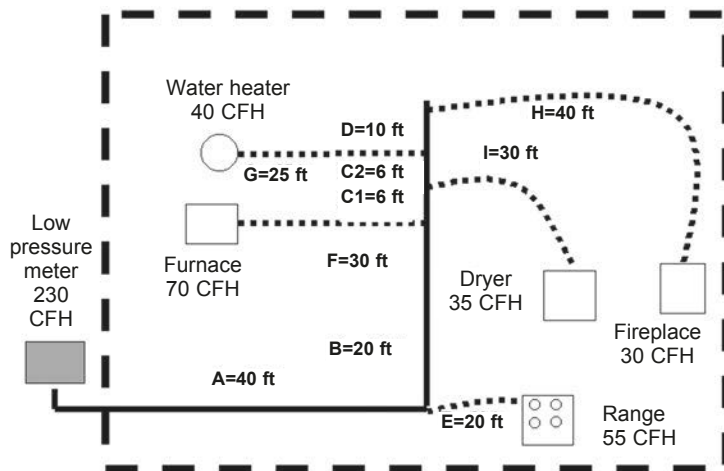
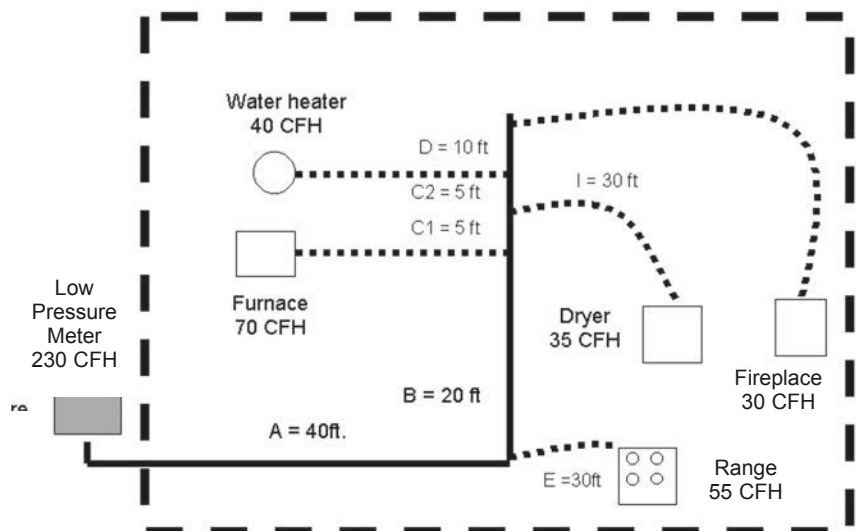

Figure: 3-6
Figure: 3-8
- The system presented in Figure: 3-6 is a typical residence with 5 appliances. The supply pressure is 7 inches w.c. The allowable drop is 1-inch w.c. total.
1. The system presented in Figure: 3-8 is identical to that in Figure: 3-6, a single-family installation with 5 appliances. Low pressure 6-7 inches and a pressure drop of 0.5 inch water column. **NOTE:** In Example: 6 this system was sized using the longest run method. Here we will use the sum of pressure loss method discussed in section 3.2D.